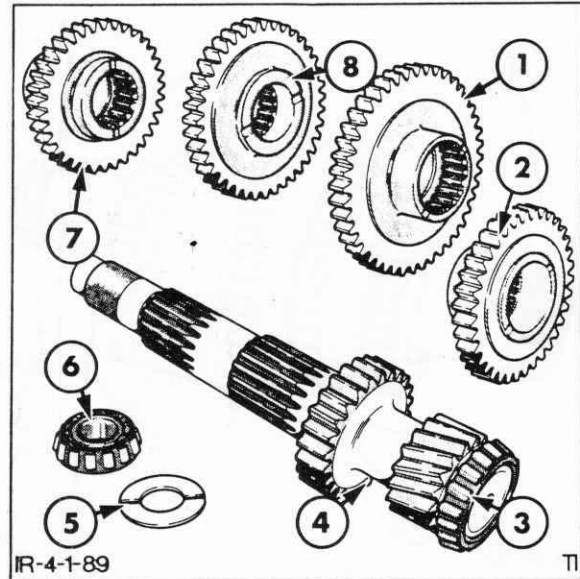

Figure 4-88
2. Normally, the countershaft rear bearing, Figure 4-88, need not be removed, however, if the bearing is worn or damaged, it can be removed with a punch and hammer. If the bearing is removed, a
1. Thoroughly clean the countershaft components, Figure 4-88, with suitable solvent, then blow dry with compressed air. Do not spin the bearings with compressed air.
Refer to Figure 4-88.
2. If it was necessary to remove the countershaft rear bearing, Figure 4-88, press a new bearing into place with the same size sleeve that was used for installing the front bearing, Step 1. Also install a new countershaft bearing cap.